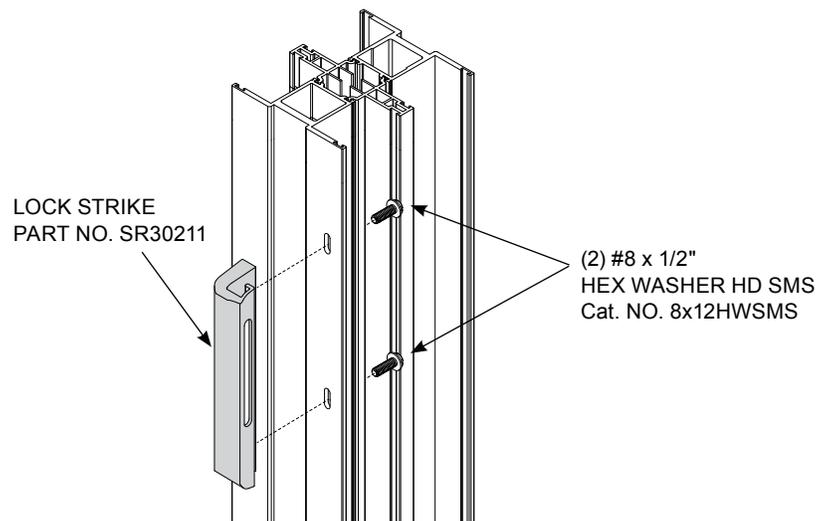

FIG. 39
4. Install Lock Strike with (2) #8 x 1/2" Hex Washer HD SMS fasteners. (FIG. 39)